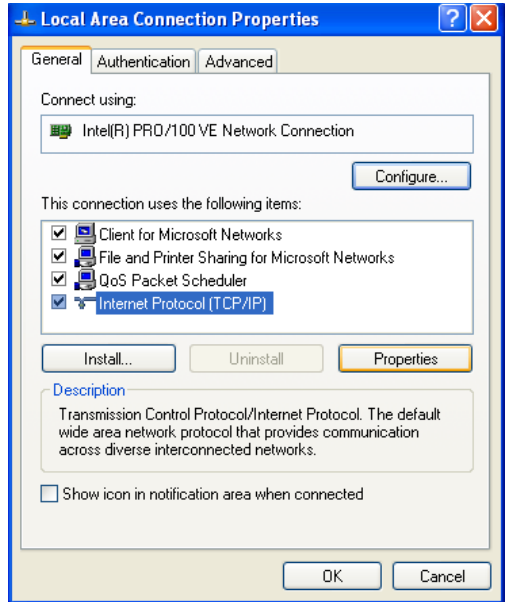

Figure 99: Local Area Connection Properties
4. Ensure that the Client for Microsoft Networks and Internet Protocol (TCP/IP) are installed and checked. If NetBEUI is installed, uninstall it. See Figure 99.